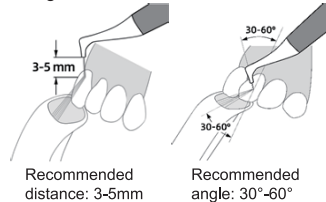

Figure 2
3.1.5 When using the sandblasting handle for normal tooth cleaning, it is recommended that the distance between the nozzle outlet and the tooth surface should be 3-5mm, and the sandblasting direction should be 30-60° to the tooth surface, as shown in Fig. 2.